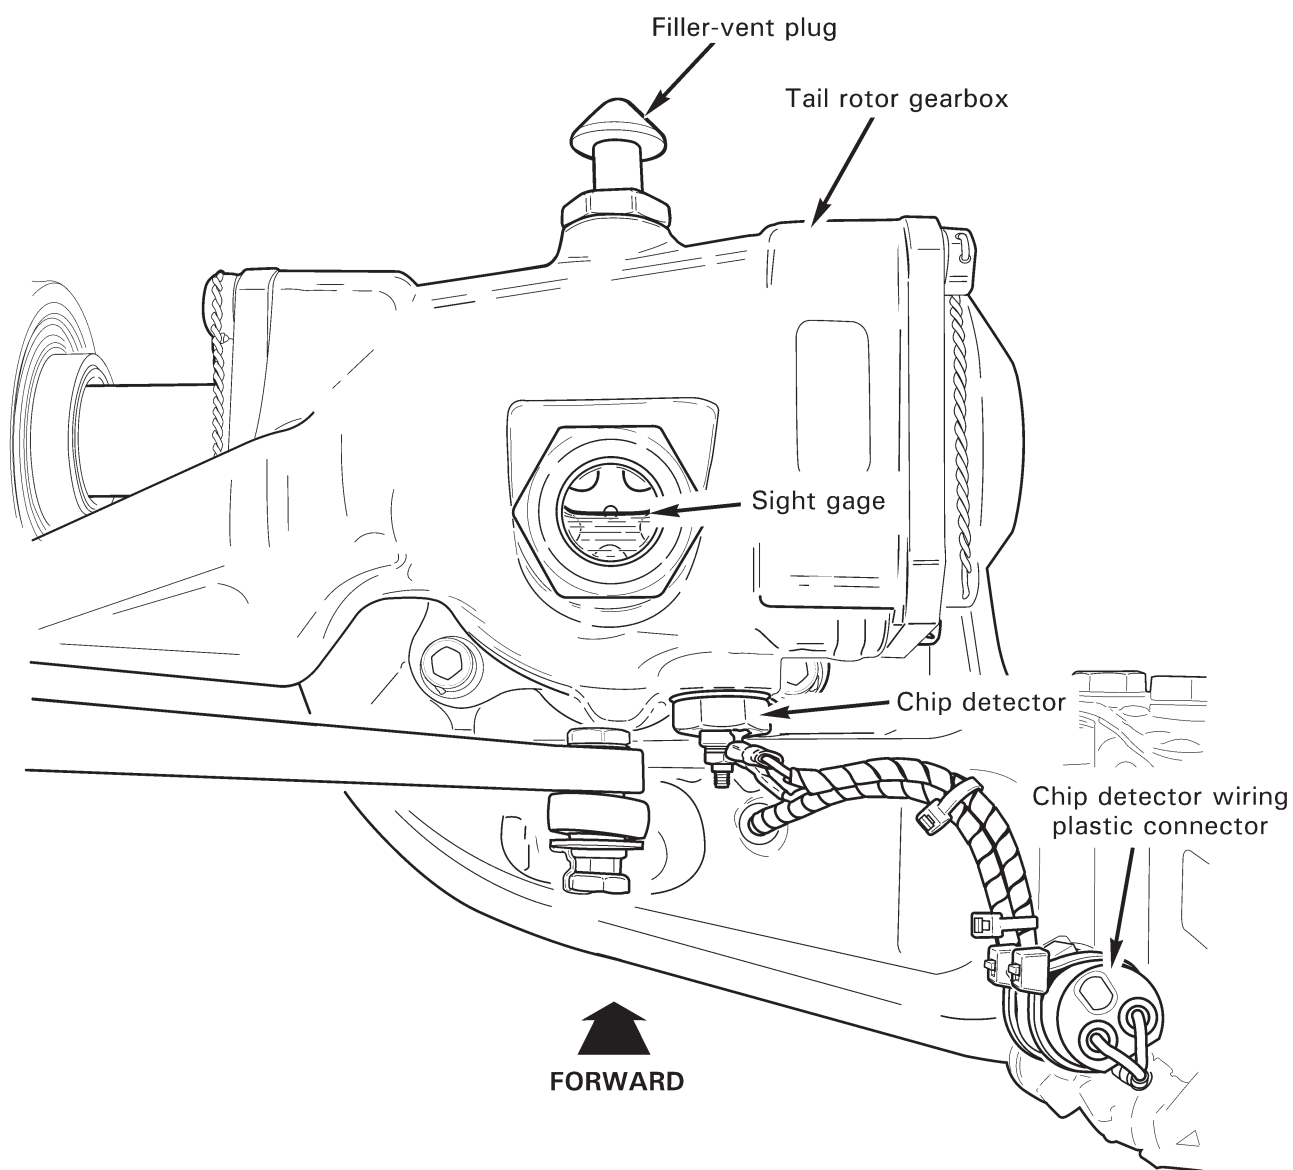

FIGURE 12-3 TAIL ROTOR GEARBOX
1. Refer to Figure 12-3. Cut and discard ty-raps as required and disconnect chip detector wiring from airframe harness at connectors.
2. Refer to Figure 12-3. Remove filler-vent plug and fill gearbox with A257-22 lubricant to center of sight glass.
1. Refer to Figure 12-3. Verify cleanliness and clarity of sight gage. As required, remove sight gage per Part A and clean with approved solvent per Section 20-70. Install sight gage and special torque per Section 20-33.